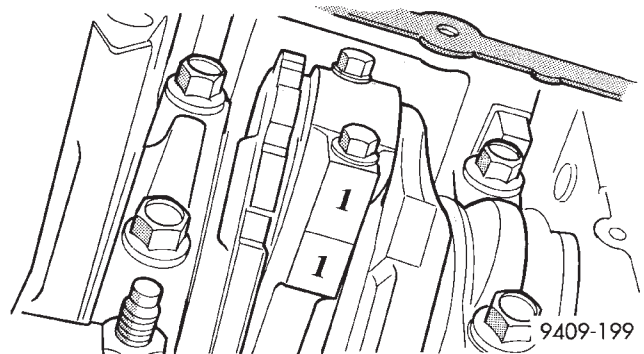

Fig. 83 Identify Connecting Rod to Cylinder
(2) Remove oil pan. Scribe the cylinder number on the side of the rod and cap (Fig. 83) for identification.
(3) Pistons have a directional stamping in the front half of the piston facing towards the **front** of engine.
(4) Pistons and connecting rods must be removed from top of cylinder block. Rotate crankshaft so that each connecting rod is centered in cylinder bore.
(5) Remove Balance Shaft Assembly. Refer to Balance Shaft Removal in this section.
(6) Remove connecting rod cap bolts. Push each piston and rod assembly out of cylinder bore.